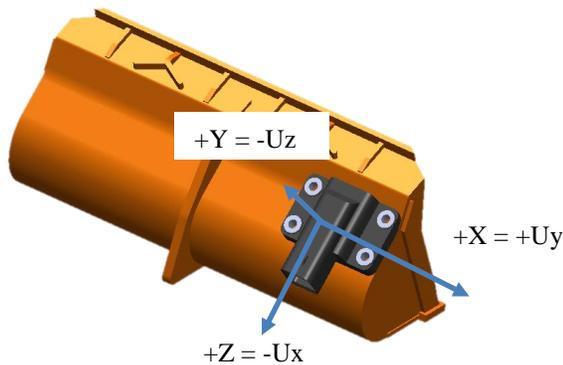

FIGURE 4
**Example 3:** Bucket Orientation Monitoring with mounting as depicted in FIGURE 4